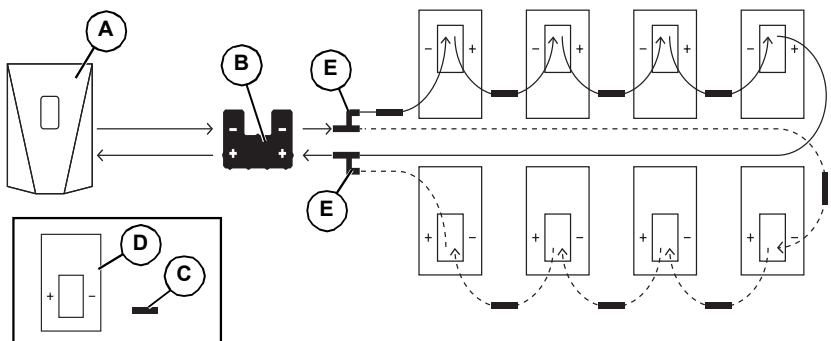

Figure 5-5. Parallel-Input PV Array with SnapRS Devices
- See Figure 5-5. High-voltage modules can be configured in parallel strings.
NOTE: See Figure 5-5. When dual strings are connected in parallel, each string must use the same number of the same type of PV modules, and there must be one SnapRS device for each module in the array.